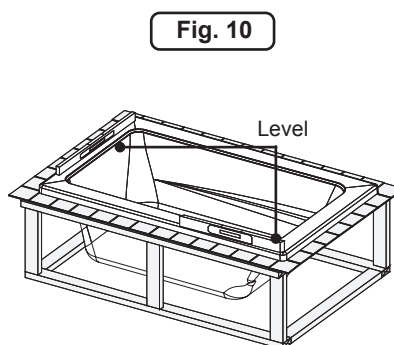

Fig. 10
5. The bathtub must be set level. To check, use a level on top of the ledges on both ends of tub and on top of threshold (Figure 10).